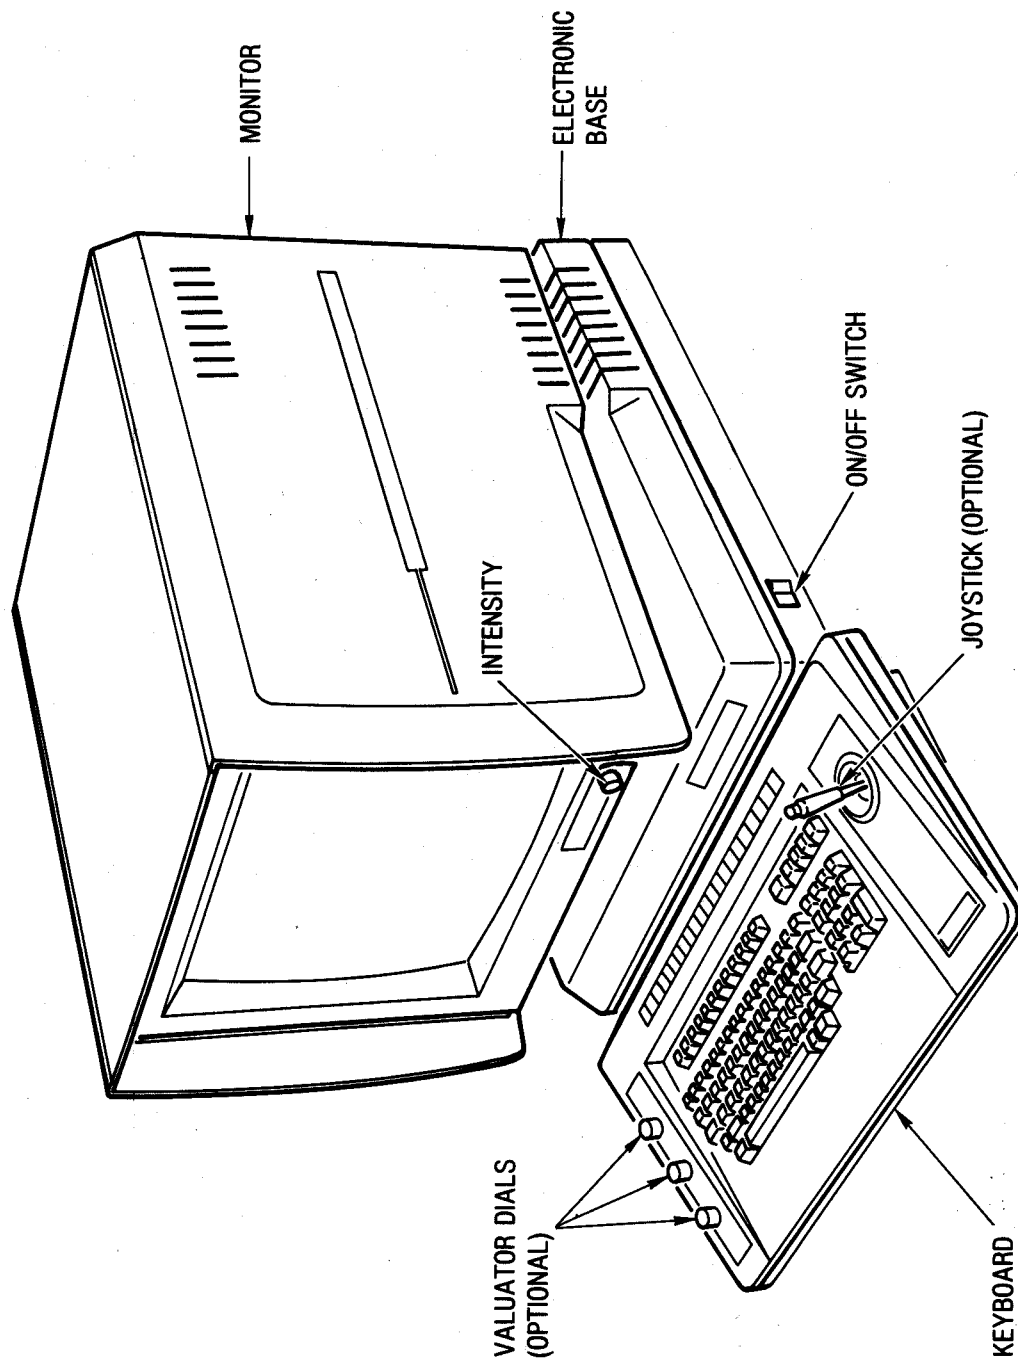

Figure 1-5. Whizzard 1645 Components and Controls
4. Verify that the monitor's power requirement label matches the electronic base power requirement label and that they are the correct supply voltage (115V/230V, 115V is the standard in the U.S.). Make sure that the electronic base power switch is off (Figure 1-5).
A cursor should appear in the upper-left corner of the screen about the time the keyboard beeps. If the screen is blank, make sure the monitor's power switch is on. Try adjusting the gain and brightness controls on the front of the monitor (Figure 1-5). If you still do not see a cursor, call Megatek's Customer Service Department for assistance.